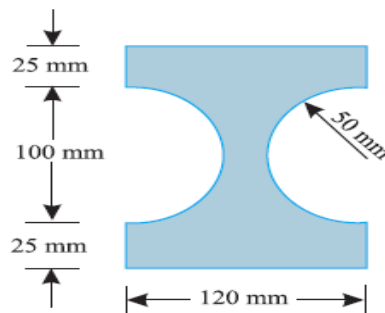

Fig.22
6. Figure 22 shows the cross-section of a cast iron beam. Determine the moments of inertia of the section about horizontal and vertical axes passing through the centroid of the section. [12] [12M]